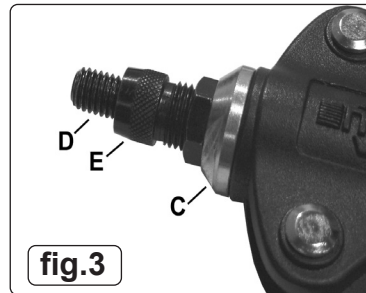
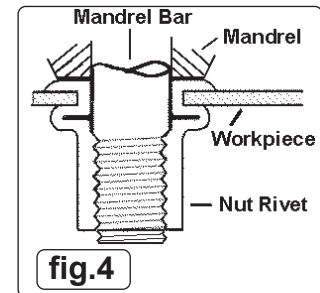

fig.3
fig.4
- 6.2.3. Screw the nut rivet nosepiece (fig.3.C) into the riveter body.
- 6.2.4. Screw the appropriate mandrel bar (fig.3.D) into the draw bar body. Note left-hand thread.
- 6.2.5. Screw the corresponding mandrel (fig.3.E) into the nosepiece.
- 6.2.9. Squeeze the riveter handles to compress the nut rivet. When the rivet has formed a retaining bulge against the rear face of the sample (fig.4) keep light pressure on the handles and screw in the mandrel (fig.3.E) until the handles are closed. Lock the mandrel in position by tightening the lock nut. All following rivets will be deformed to the same degree when the handles are fully closed. The setting applies only to the one rivet size and the one workpiece thickness - the test must be repeated each time there is a change in nut size and/or workpiece thickness.